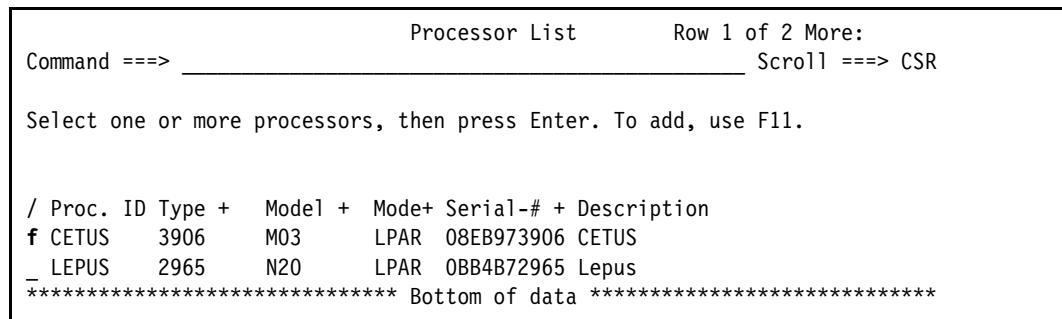

Figure 15-8 Processor List: Adding PCIe functions to a processor, RoCE-2
2. Enter **f** (work with PCIe functions) next to the processor (CETUS) to which you want to define the RoCE-2 functions and press **Enter**. See Figure 15-8.